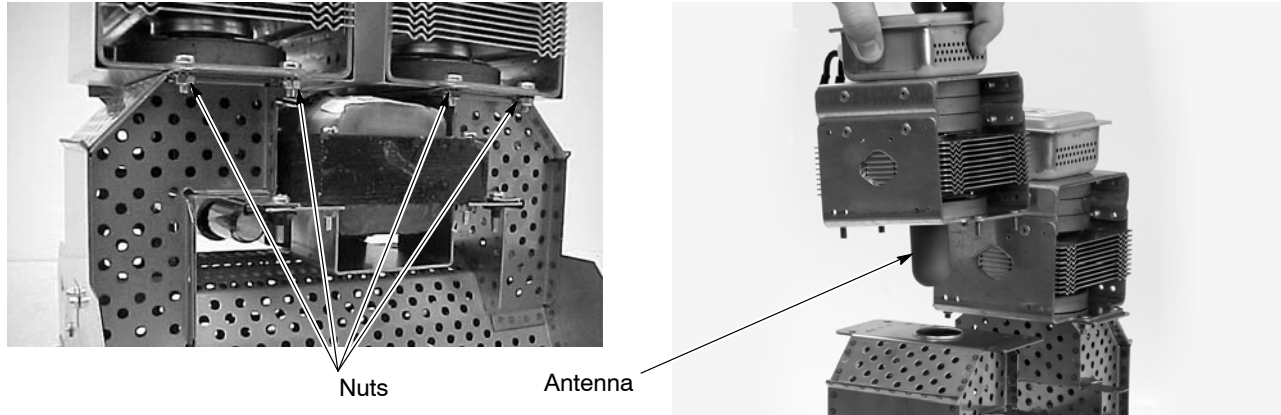

Figure 6-19 Magnetron Removal
4. See Figure 6-19. Remove the four nuts that secure each magnetron to the wave guide. Remove the magnetrons. Save the nuts for re-use.
5. See Figure 6-19. Inspect the gasket around the antenna of the new magnetron, making sure it is smooth and free of debris.